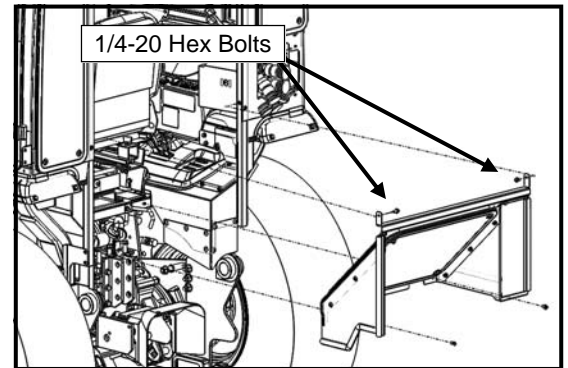

Figure 3.1: Rear Cab Panel Install
- 3.1 Per Figure 3.1, install the assembled rear cab panel to the cab using (2) 1/4-20 x 5/8" hex bolts through the upper tabs into the rear panel tube.